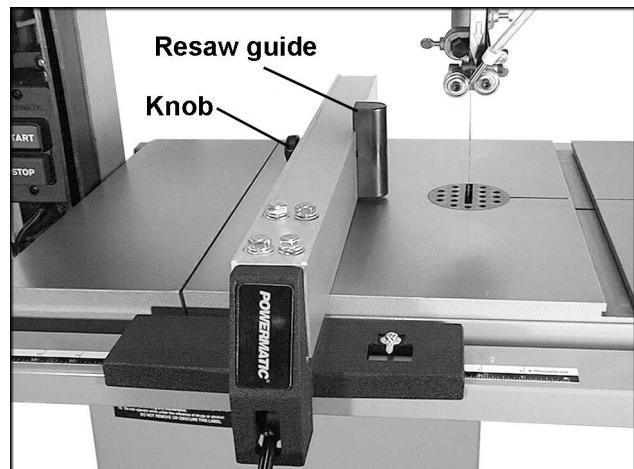

Fig. 20
14. For resaw operations attach the resaw guide (Fig. 20) to the fence with the knob. There is a slotted hole in the fence that will accommodate the resaw kit. Position the resaw guide so that it is centered with the front edge of the saw blade. The resaw guide will give you a taller, single-point contact surface during resawing.